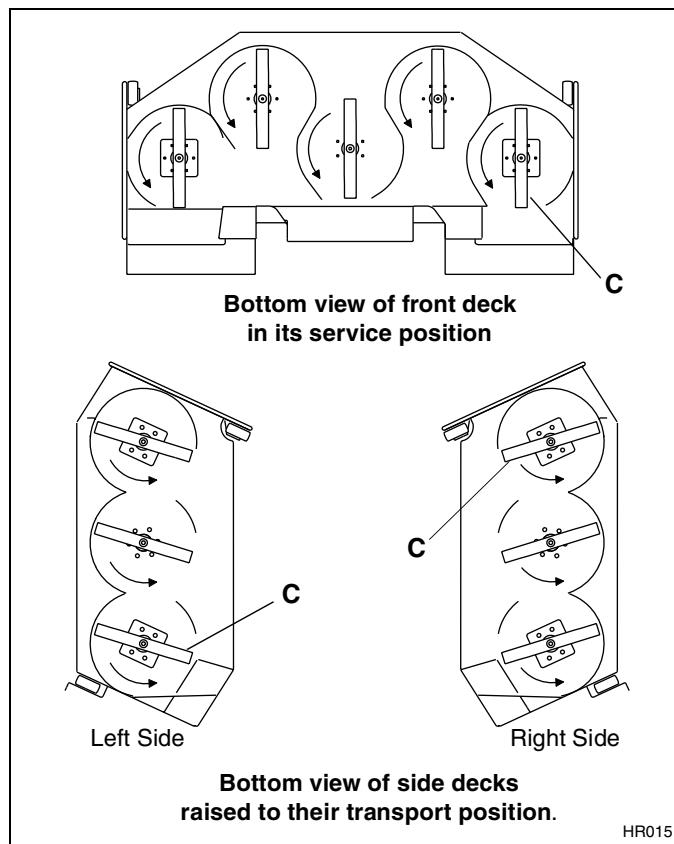

Figure 4C
- Attach blade to mower. Install blades so cutting edges **(C)** face the direction of rotation as shown in Figure 4C. Beveled cutting edge of blade must face in toward deck housing.